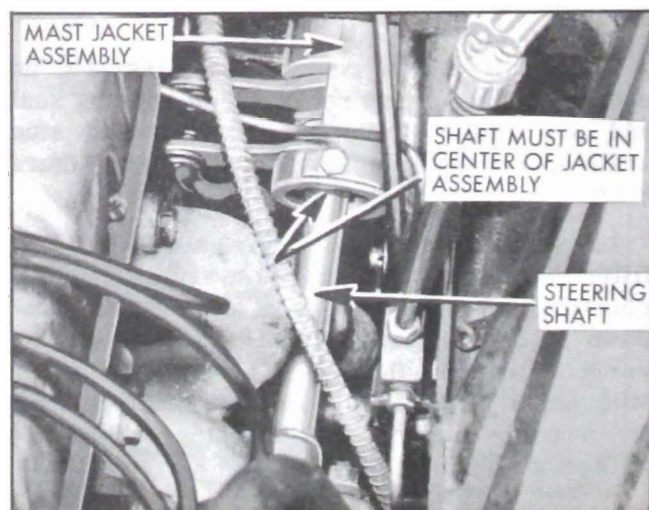

Figure 8-75—Steering Shaft to Mast Jacket Alignment
3. Position mast jacket so steering shaft is in center of lower end of assembly. See Figure 8-75. Attach toe pan cover to cowl. If toe pan does not line up with attaching holes in cowl when steering shaft is correctly aligned, it will be necessary to drill new holes in cowl.